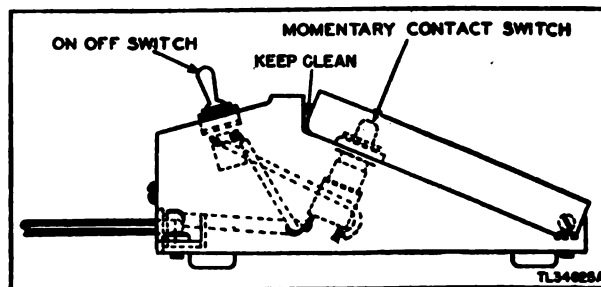

Figure 42. Foot switch.
(6) Clean the foot switch (fig. 42) with a brush. It is important that the dirt does not cake under the foot pedal. Check the ON-OFF switch for positive action and snap.